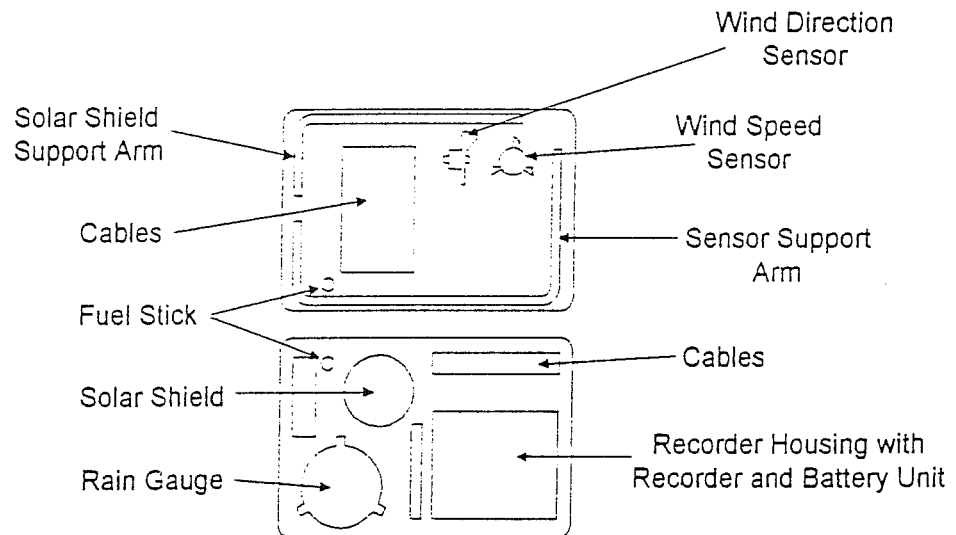

Figure 4-1
1. If you have the optional FWS-11 shipping case, open it and note the positions and packing methods of the various components (Figure 4-1).